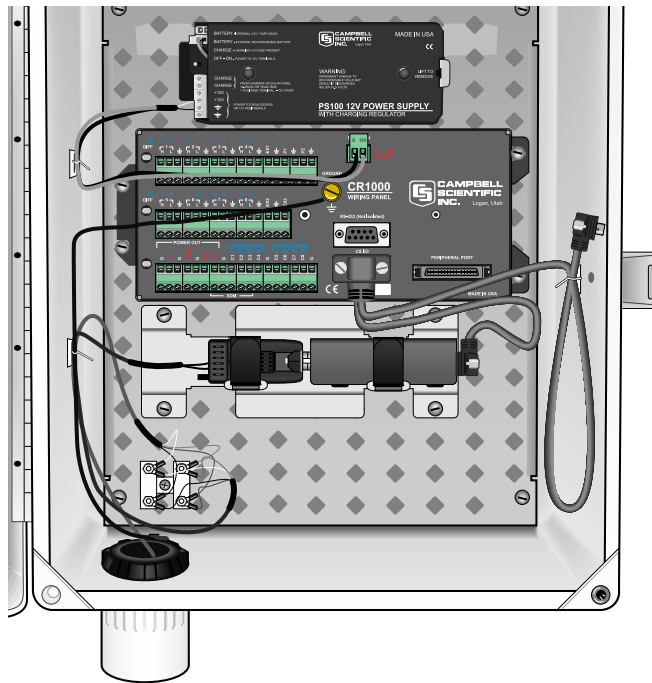

FIGURE 3.3-3. SRM-5A Rad Modem and SC932A Interface
Mount the digital cellular modem in the enclosure as shown in Figure 3.3-3 with the following steps:
2. Attach the SRM-5A and SC932A mounting bracket to the enclosure backplate using the two screws and nylon inserts provided (Figure 3.3-3).